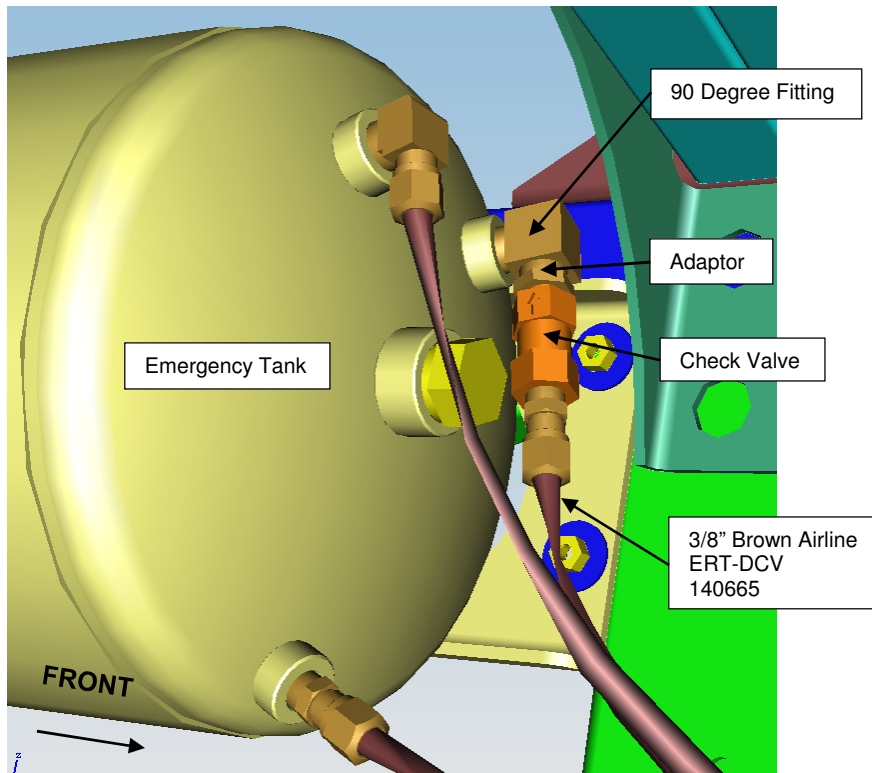

Figure 4: Existing Emergency Tank Connections.
16. Disconnect the 3/8" Brown airline labelled ERT-DCV 140665 at the check valve on the emergency tank. Fold the airline back on itself and secure with a tyrap NF P/N 5958112. Figure 4.
17. Remove the check valve and the 90 degree fitting on the emergency tank and discard them. Figure 4.